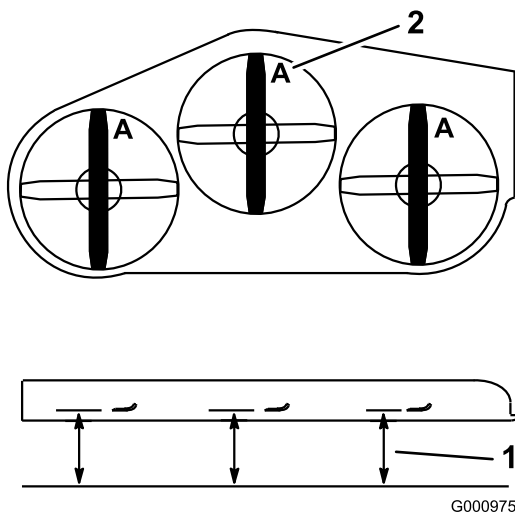

Figure 85
3. Rotate the blades until the ends face forward and backward (Figure 85). Measure from a level surface to the cutting edge, position A, of the blades (Figure 85). Note this dimension.